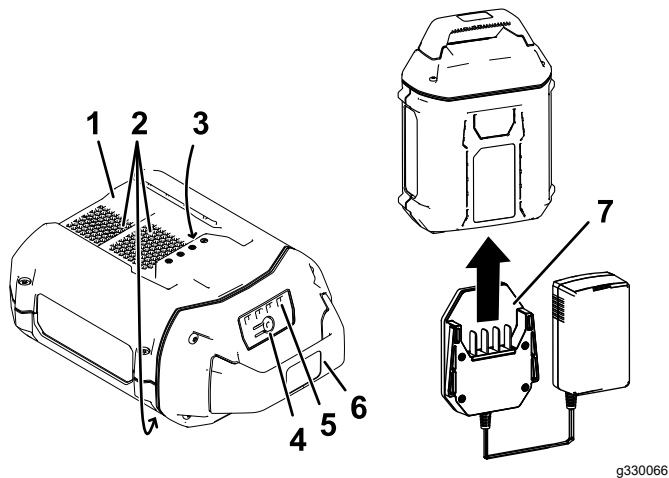

Figure 11
2. Line up the charger with the cavity on the back of the battery pack (Figure 11).
3. Slide the charger into the battery pack until it is fully seated (Figure 11).